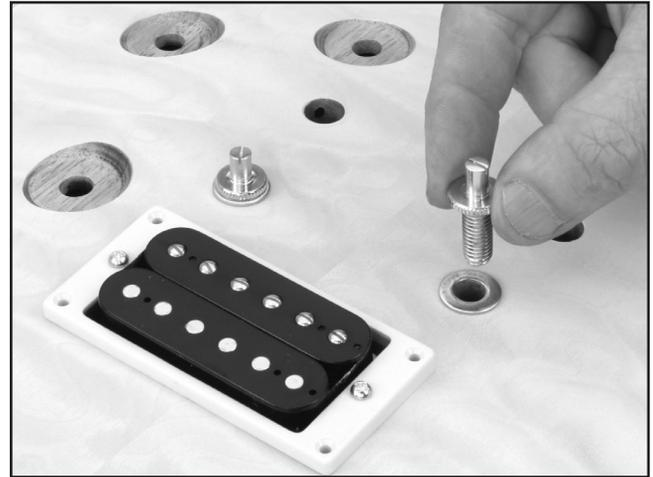

Figure 24. Bridge adjustment screw.
3. Thread the bridge adjustment screws into the inserts, as shown in **Figure 24**, and place the bridge over the inserts.